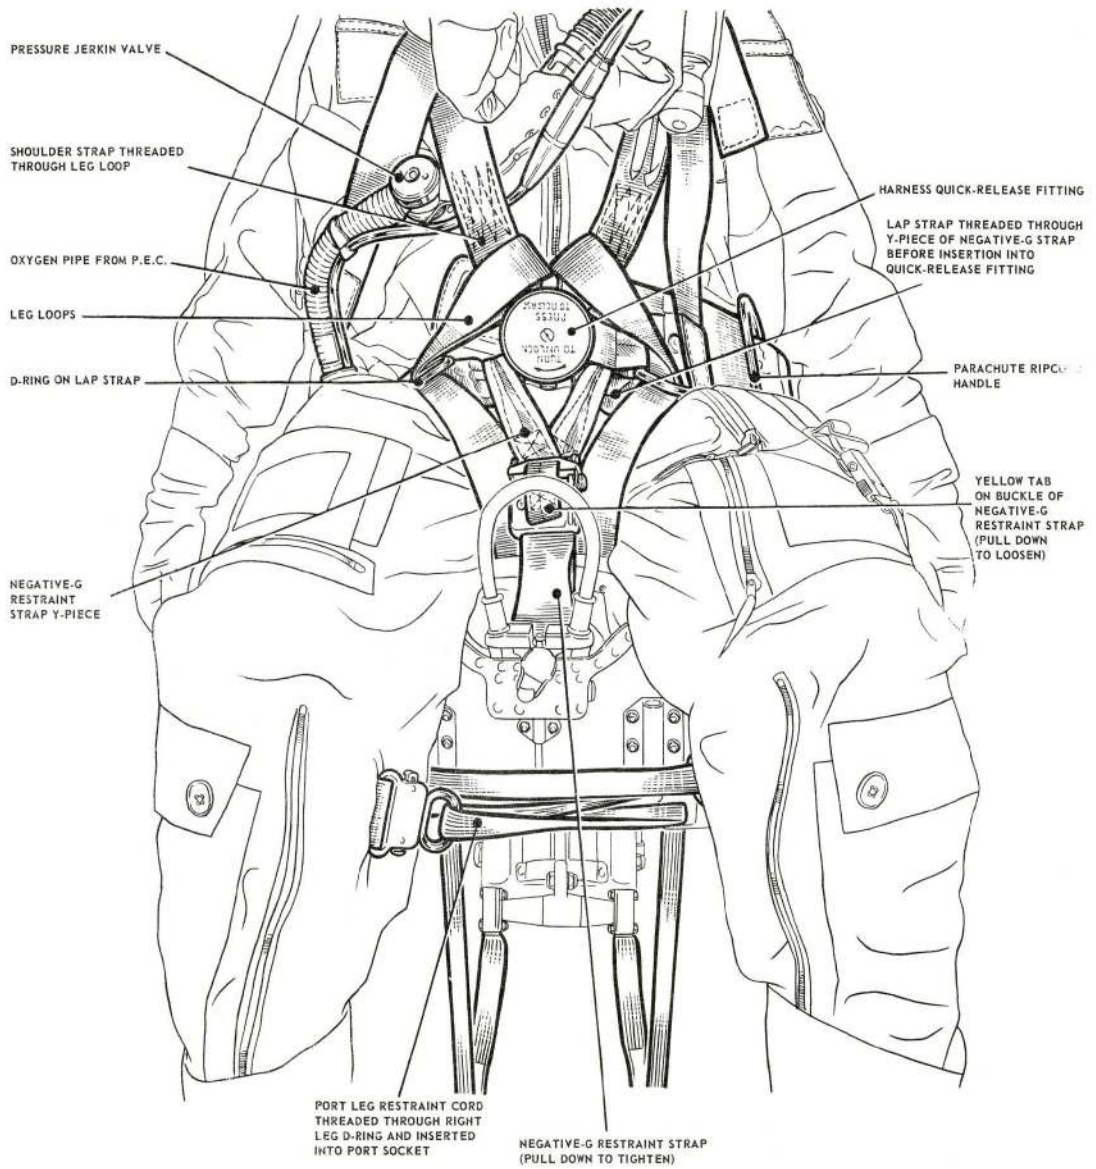

Fig. 8. Arrangement of leg restraint cords
17 The procedure for strapping-in is as follows, referring to figs. 8 to 10 as necessary
- (1) Ensure that the safety pins are correctly fitted in the 'safe for parking' condition.
- (2) Remove the dust cover from the P E.C. and fit it into the stowage on the port side of the seat pan.
- (3) Check that the static rods from the drogue gun and the barostatic time release unit are secured correctly
- (4) Grasp each lap strap and shoulder strap of the harness, pull sharply on each in turn and check for security
- (5) Sit in the seat and adjust its height; ideally the head should be central against the headrest wedge pad. Connect the personal component of the P E.C. to the seat component.
- (6) Connect the personal survival pack lowering line to the corresponding fitting on the life jacket or pressure jerkin as appropriate, ensuring that it passes outside the left leg.
- (7) Pass the left leg restraint cord through the right leg garter D-ring and plug it into the socket above the left snubbing unit. Pass the right leg restraint cord through the left leg garter D-ring and plug it into the socket above the right snubbing unit. Pull sharply on both cords to ensure that they are locked correctly in their sockets. It is immaterial which cord is secured first but it is essential they are not interlaced (*fig. 8*).
- (8) Adjust the leg restraint cords in their snubbing units to achieve the desired freedom of leg movement.
- (9) Adjust the back pad and lumbar cushion to the most comfortable position. Bring the harness waistbelt across the body and adjust the quick-release fitting so that it lies centrally, with the waistbelt close to the body. Check that the quick-release fitting is in the locked position.
- (10) Bring the negative-G strap up between the legs, ensuring that it is to the REAR of the seat pan firing handle and not passing THROUGH it and that the strap is not twisted. Thread the lugs of the lap straps through their respective loops in the blue 'Y' piece of the negative-G strap and connect the lugs into the quick-release fitting on the waistbelt, ensuring that the right lap strap passes OUTSIDE the hoses from the personal component of the P E.C. and that the harness quick-release fitting is as low as possible consistent with comfort.
- (11) To connect the lap and shoulder straps to the quick-release fitting, turn the disc knob until the yellow line passes the dots on the body, hold it in this position and insert the first lug. Repeat the operation as each of the remaining lugs is fitted.
- (12) Tighten the lap straps. The straps are to be as tight as possible. To tighten these straps fully, it is necessary to relieve the tension on the standing end of each strap (the ends that carry the buckles) otherwise the buckles become stiff. Pull on the running end with one hand and push the webbing of the standing end towards the buckle with the other; it may be necessary to do this several times before the straps are